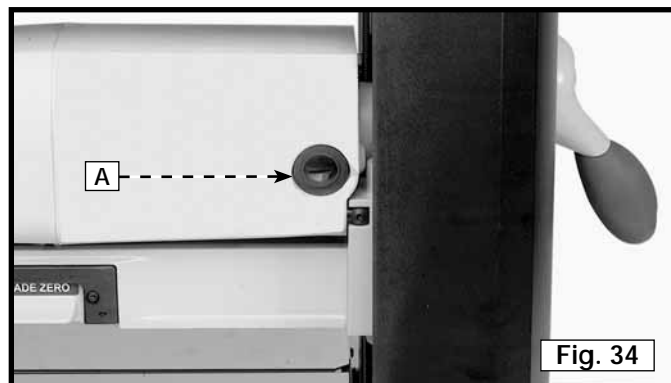

Fig. 34
The brush holders, one of which is shown at (A) Fig. 34, are located on the motor housing opposite each other. One of the removed brushes is illustrated in Fig. 35. When the carbon (B) on either brush is worn to 3/16" (4.8 mm) in length or if either spring (C) or shunt wire is burned or damaged, replace both brushes. If the brushes are found serviceable after removing, reinstall them.